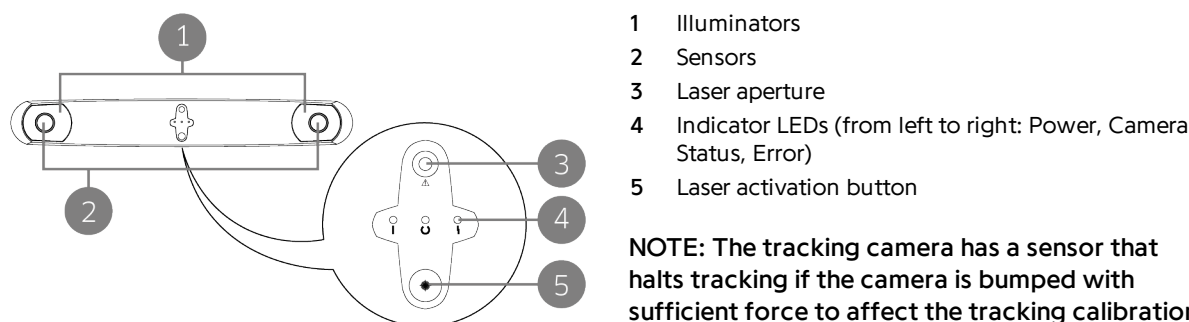

Figure 4 Tracking camera front view
cranial reference are in the field of view. The laser beam is emitted from an aperture on the front of the tracking camera (item 4 in Figure 4 above).
To use the positioning laser, press and hold the laser activation button on the front of the tracking camera (item 5 in Figure 4 above). The laser remains on only while the button is pressed.